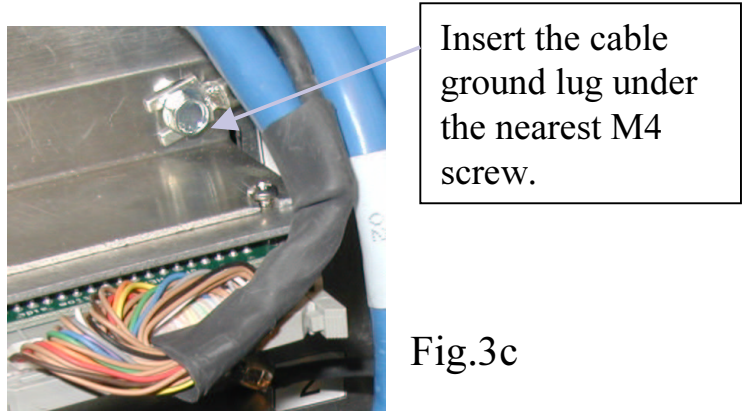
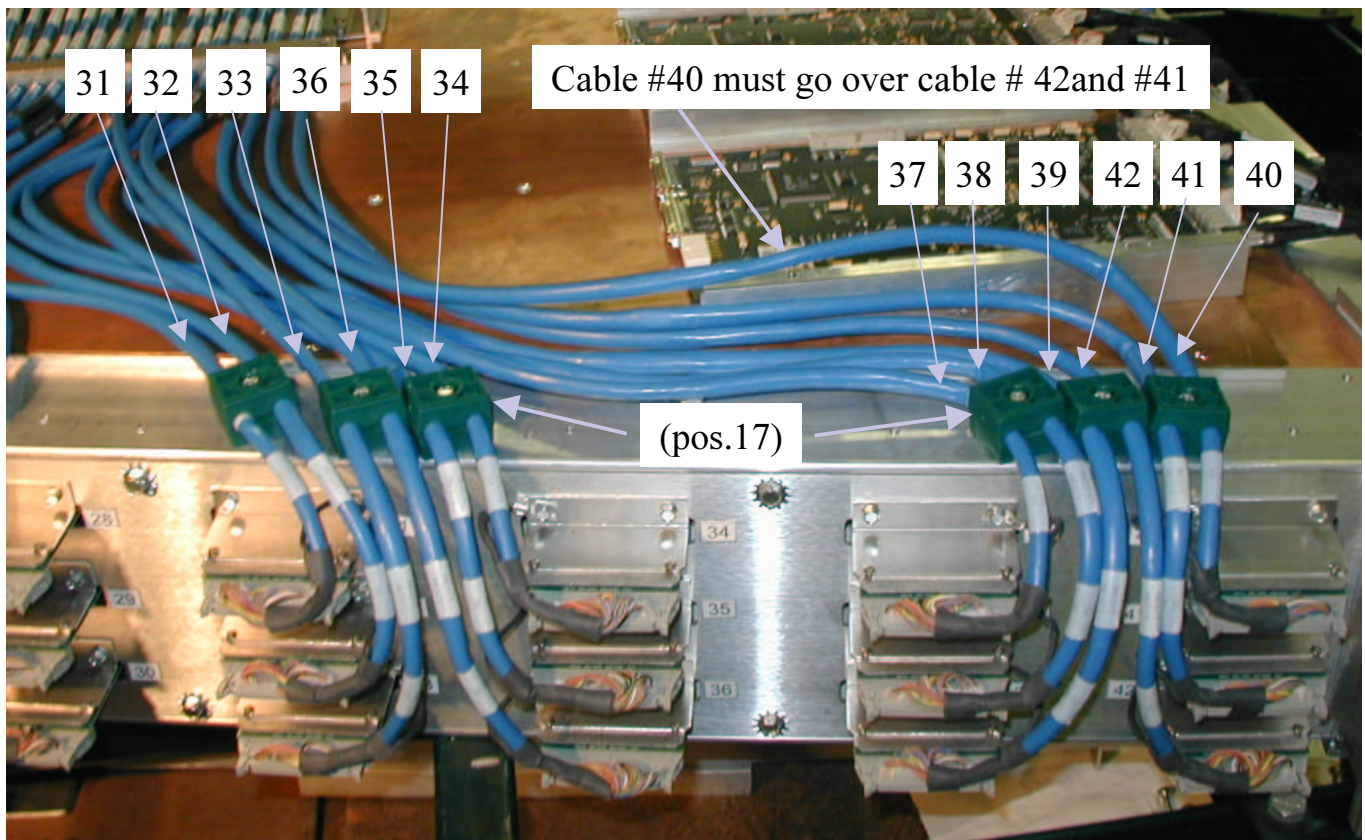

Fig.3c
Fig.6. Cable bunch 6 and 7 connection.
Step 1. Connect cable #1 to the amplifier #1 (top position). Then continue connecting in order 2, 3, and 4, 5, 6. Every cable must go over the previous one as shown in Fig.3a . Insert each cable ground lug under the nearest M4 screw (Fig.3c).
See Fig.6 for reference. Insert the cable ground lug under the nearest M4 screw for each cable as shown in the picture (Fig.3c).
Step 3. Set the cables between the cable strain relief RBPR-110 (pos.17) in order 31, 32, 33, 36, 35, 34 and 37, 38, 39, 42, 41, 40 as shown in the picture (Fig.6).
Step 4. Form up the cables at the AFEB outputs as shown in the pictures (Fig.3a and Fig.6). All cables must go along the connector side wall. If necessary, use an extra cable tie to keep the cables in the correct position (Fig.4a).